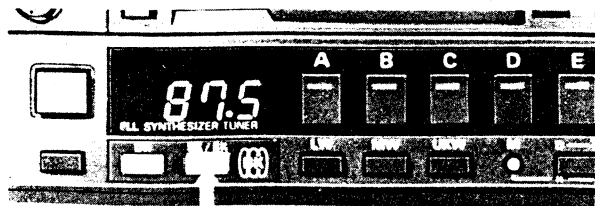

Fig. 9
Push the "SK/BK" BUTTON ⑬. At this stage, all the AREA INDICATORS ⑭ "A" up to "F" (located on top of each of the DESIGNATED AREA BUTTONS ⑮) will light up, and the radio will be put at the traffic-information broadcasting mode. The six PRESET STATION BUTTONS ⑪ will become DESIGNATED AREA "A" up to "F" BUTTONS ⑮. (Fig. 9).